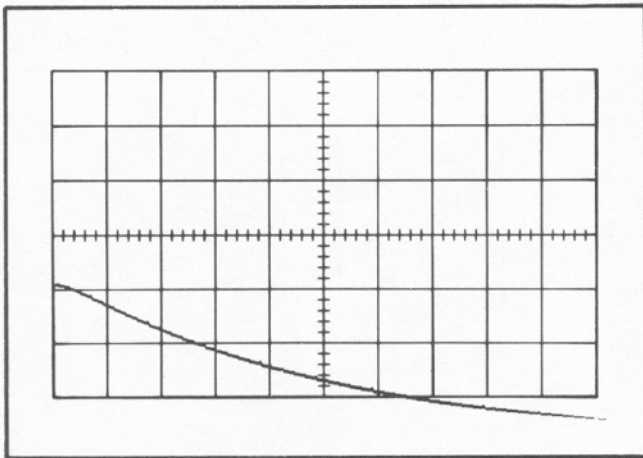

Fig. 6-44. Typical crt display when checking DELAY-TIME MULTIPLIER incremental linearity.
- Rotate the dial as necessary to position the start of the pulse to the beginning of the sweep (see Fig. 6-44).